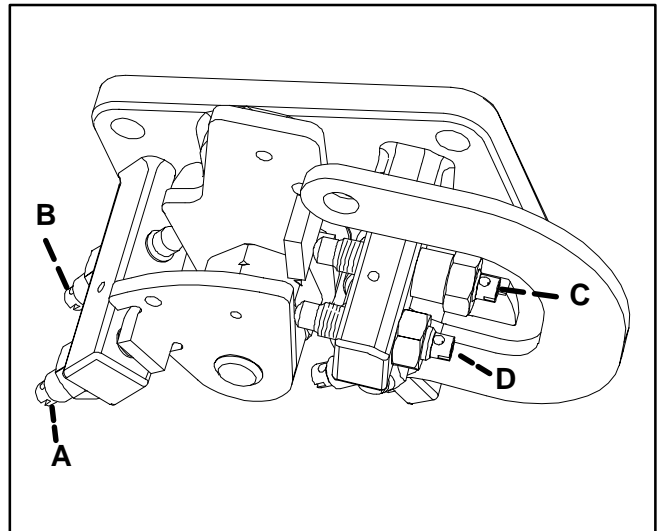

FIGURE 15. FREQUENCY ADJUSTMENT
2. Back off screw **A** (Figure 15) to free the front (60 Hz) lever and prevent overspeed shut-down, snug screw **D** and set the locknuts.
1. First adjust genset frequency to 50 Hz if the adjustment seal on screw **B** (Figure 15) is broken. Snug screw **C** if necessary.